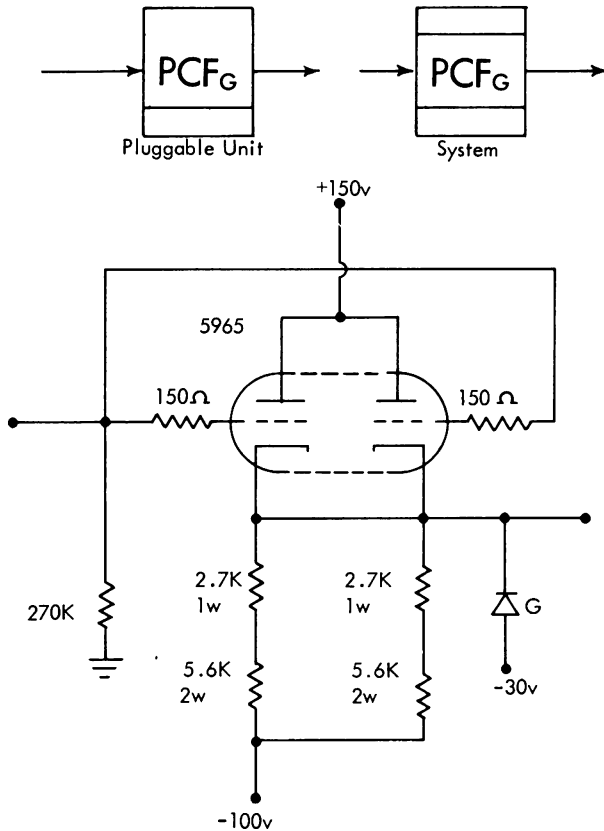

FIGURE B68. POWER CATHODE FOLLOWER (PCFG)
Except for the RC coupling circuit on its input this cathode follower is identical to the power cathode follower PCFP (Figure B68).
The oscillator output must be powered before it is fed into the sync generator. PCFG (Figure B68) is a special cathode follower used for this purpose. It also serves as a level setter because: (1) its input contains part of a divider attached to the output of the master oscillator unit, and (2) its cathode circuit contains a clamp diode. The circuit is two parallel ordinary cathode followers with no bias resistors. A slight voltage rise through the circuit can be expected.